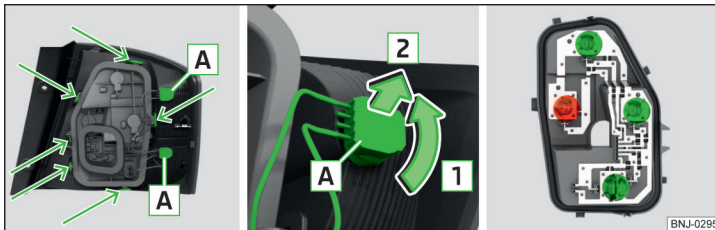

Fig. 307 Outer part of the lamp / removing the bulb / lamp holder
- › Turn the holder with the bulb **A** in the direction of arrow **1** » Fig. 307.
- › Turn the holders with the bulbs **A** in the direction of the arrow **1** » Fig. 307.
- › Unlock the bulb holder at the areas marked with arrows » Fig. 307 and remove the bulb holder from the light.